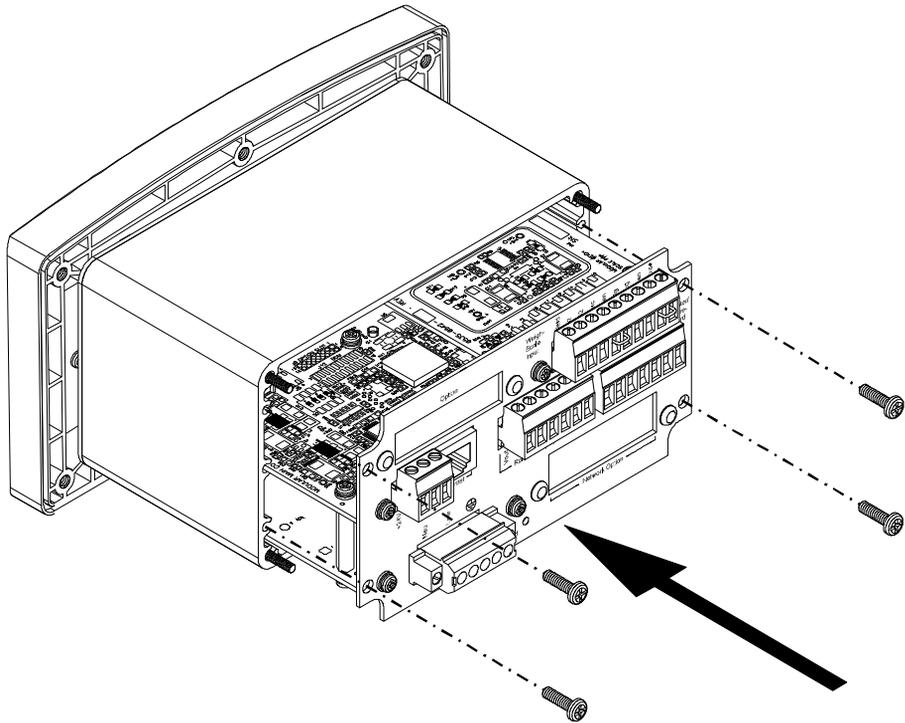

FIG. 15 INSTALLING CIRCUIT BOARDS INTO ELECTRICAL ENCLOSURE
Step 2. You will normally have the rear panel installed prior to installing or resinstalling the printed board assembly. (See Fig. 15)